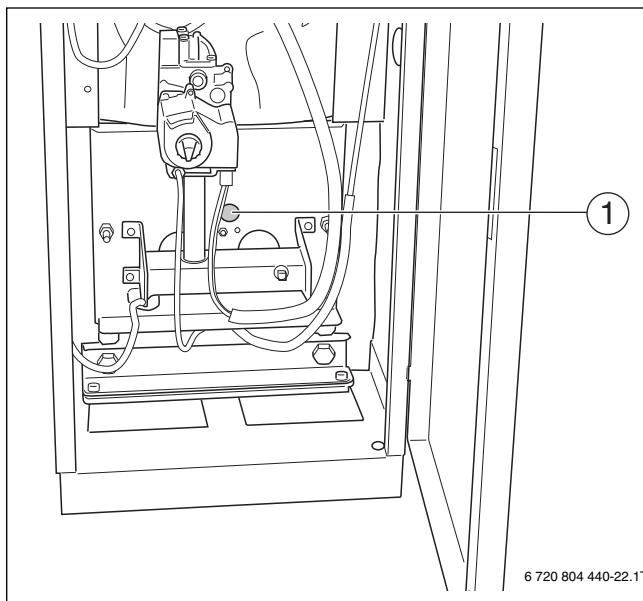
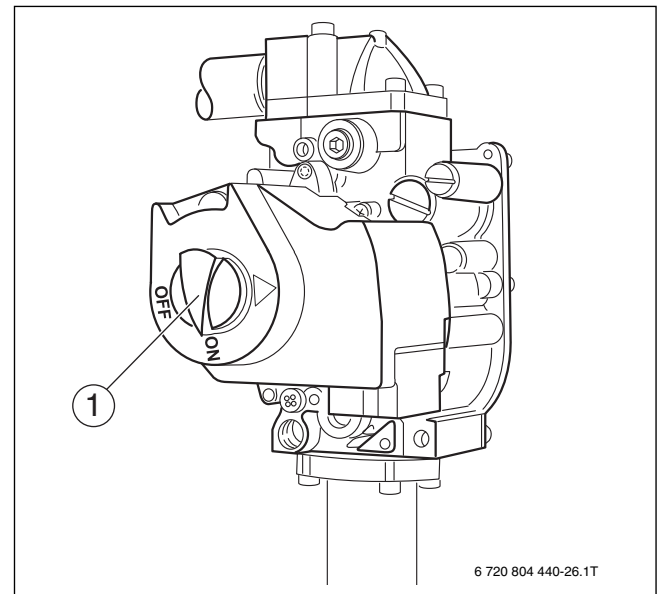

Fig. 22 GC 144 II
Fig. 26 Gas valve
- ▶ Observe main burner flame through the sight glass (→ figure 22, page 16) in the burner plate. The flame must show a steady and stable body and generally be of bluish color. If the main burner flame meets the requirements, proceed to the next step. If the main burner flame is weak, yellow, or goes out, turn the ON/OFF knob (→ figure 26) on the gas valve clockwise to OFF. Close the gas shut-off and disconnect the heating system from the main power source and contact the customer service technician or the gas company.